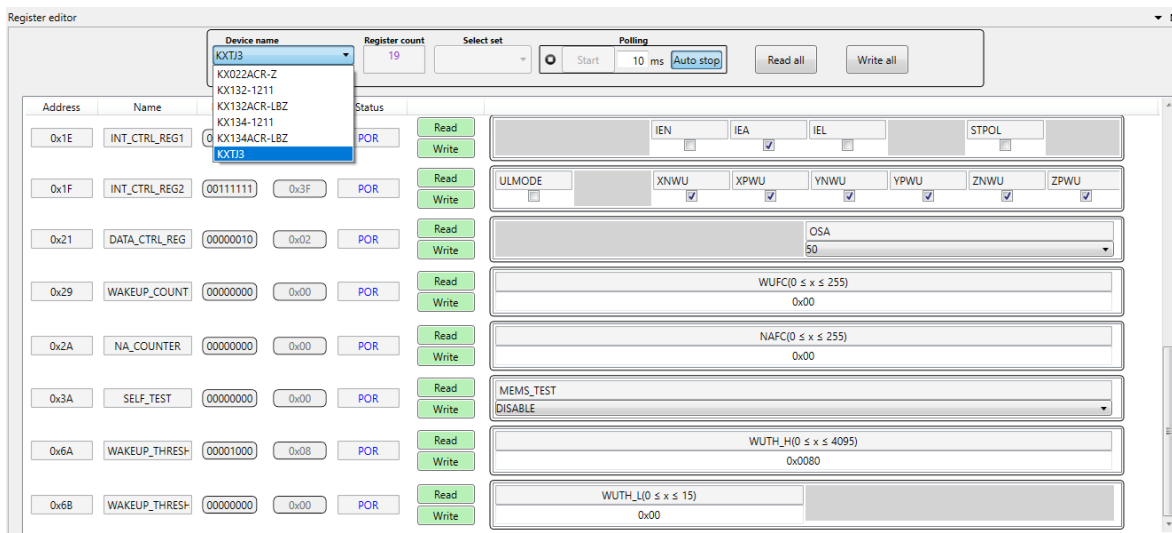

Figure 36 ROHM EVK GUI SW register editor tab with opened device name pull-down menu
“Register Editor” tab is shown for ROHM products which has internal registers. Register editor contains Register Editor Toolbar 7.6.1 for common operations and the Register Editor View 7.6.3 for viewing editing register values of selected ROHM product. (Figure 36)
- “Device name” pull-down menu that shows all ROHM products which can be used with selected ROHM EVK HW. (Figure 36)